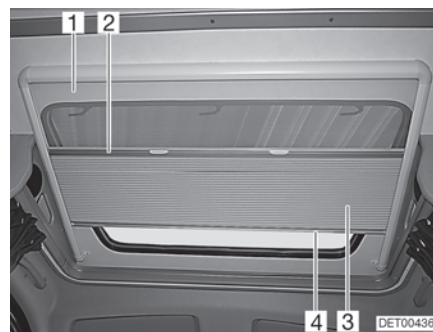

Fig. 39 Roof window
Roman shade The Roman shade (Fig. 39,3) is permanently connected to the insect screen (Fig. 39,1).
- Hold the Roman shade in the centre of the bottom rod (Fig. 39,4) and carefully draw it downwards.
- Slowly return the Roman shade to its initial position with the bottom rod (Fig. 39,4).
- Hold the insect screen at the centre of the bottom rod (Fig. 39,2) and carefully pull it downward as far as it goes.
- Slowly return the insect screen on the bottom rod of the Roman shade (Fig. 39,4).